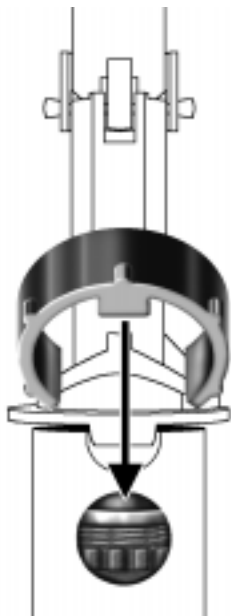

Fig. 13 - Retaining Ring Installation
9. Mate the valve seat carrier(38) evenly over the male threads of the flange. While holding the flange secure, turn the valve seat clockwise to engage the threads, and then continue turning it by hand until snug. If resistance or binding is felt, unscrew the valve seat carrier and re-seat the balancing diaphragm before proceeding to the next step.
12. While holding the valve assembly and inlet chamber securely together, fit the retaining ring(39) over the top of the inlet chamber, with the square tab mated through the hole in front of the control valve flange (see Fig. 13). Check to ensure that the inlet chamber and control valve body are securely held together, and the retaining ring is flush against the flange.